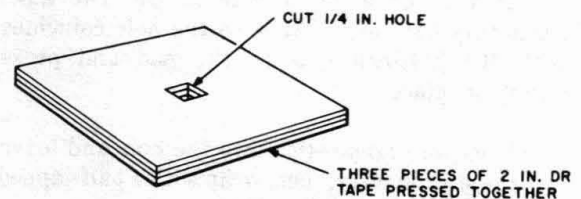

Fig. 13—Insulating Pad
- (2) Remove the underlying metal (aluminum if PAP, aluminum and steel if PASP) to the edges of the cutout area. Do not damage the inner polyethylene jacket. Carefully turn the metal edges away from the inner polyethylene jacket to maintain dielectric strength. Remove any metal slivers with tweezers.
- (3) Using a cable drill, make a hole in the center of the inner polyethylene jacket to expose the core wrap. Make an opening in the core wrap without damaging the conductor insulation.
- (4) Cut three strips of 2-inch DR tape slightly longer than the cutout area. Press the strips together to form a 3-layer insulating pad. Cut a 1/4-inch hole with scissors in the center of the pad (Fig. 13).